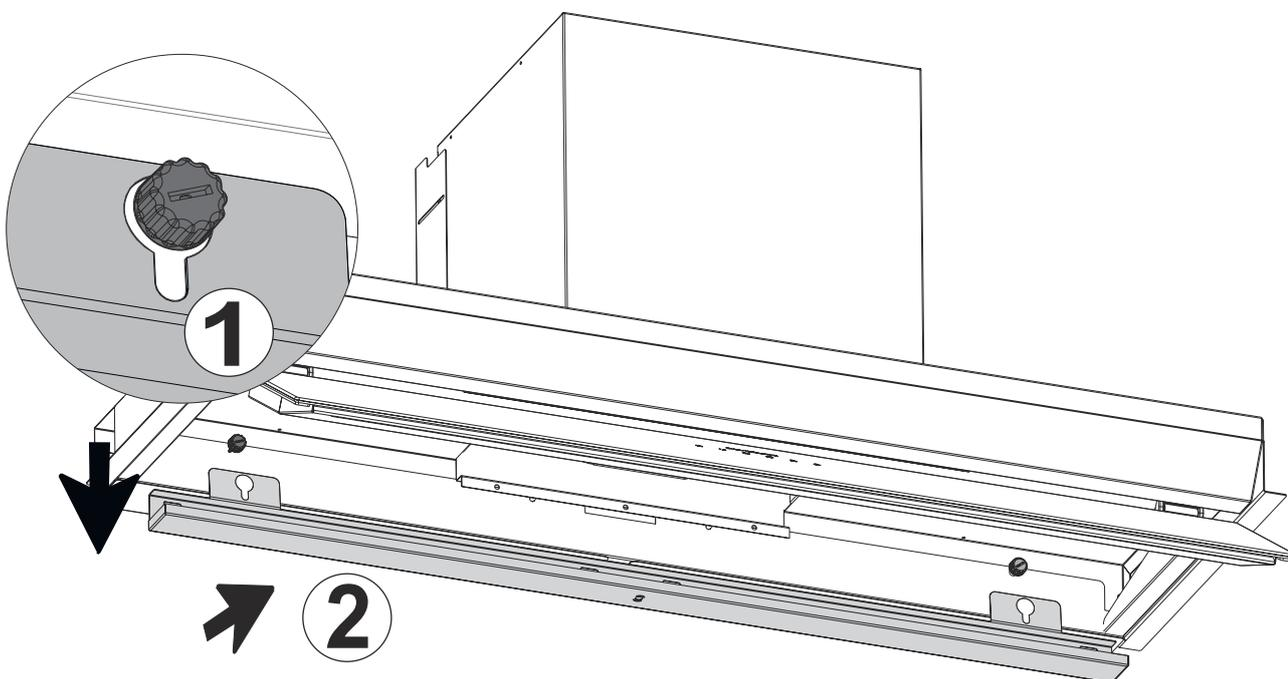

Fig. 22
4. ➤ To remove the water tank, first pull the water tank downwards (Fig. 22/1), then pull it towards you (Fig. 22 /2).